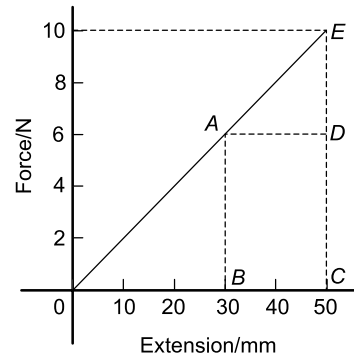

Figure 15.6
Figure 15.6 shows the force/extension graph for the spring.
- (a) Work done in extending the spring from zero to 30 mm is given by area  $AB0$  of Figure 15.6,
- (b) Work done in extending the spring from 30 mm to 50 mm is given by area  $ABCE$  of Figure 15.6, i.e.